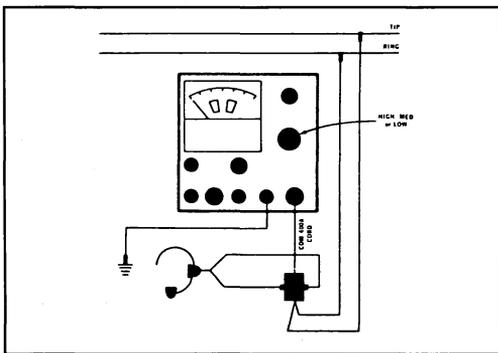

FIGURE 18
5.02 Connect the cords and set switches and Function Knob as shown in Figure 18. Now connect either one of the clips (designated as the first clip) to one of the conductors desired to be tested. The tone should be heard significantly loud. Connect the second clip to one of the other conductors in the same group. the tone should reduce down to an almost imperceptible level when both hands are clear of the clips. Be removing the second clip from the conductor and placing it on each of the other conductors in sequence, letting go of the clip each time, the condition of the pairs can be verified. Faulty conductors will produce a higher level of tone. If the majority of conductors appear faulty, it may be due to the first clip having been placed on a faulty conductor. Selecting another conductor for the first clip should correct this condition.